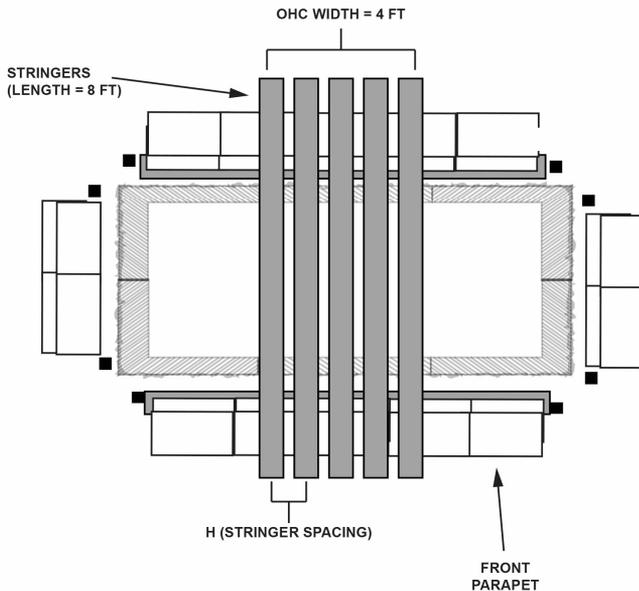

Figure 071-COM-4408-6
- (h). Emplace standard length stringers for OHC (Figure 071-COM-4408-6).